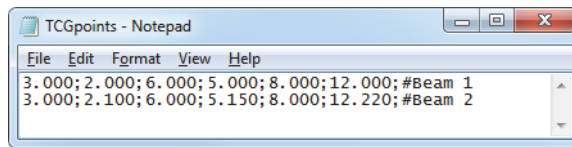

Figure 4-34 TCG points import text
1. Create the .csv file containing the different TCG points for a particular group (Figure 4-34 on page 131):